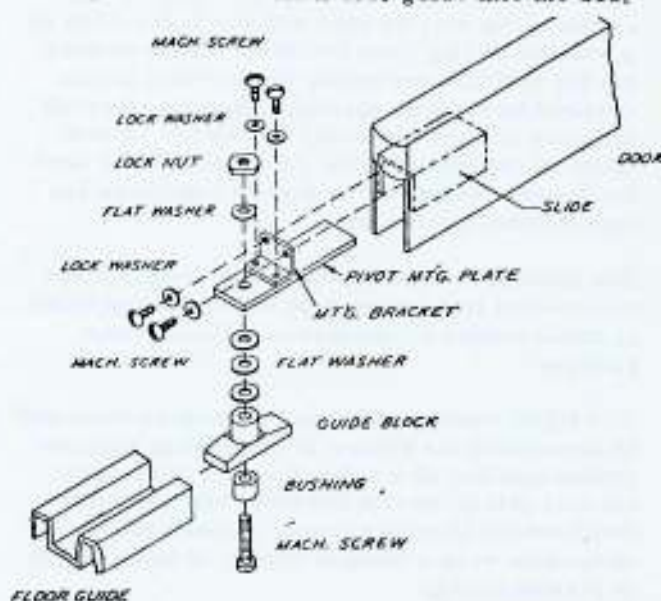

FIG. 19 Bottom door guide installation details.
4. Insert the guide block of the bottom door guide assembly into the floor guide as shown in FIG. 19. Slide the bottom door guide into the door